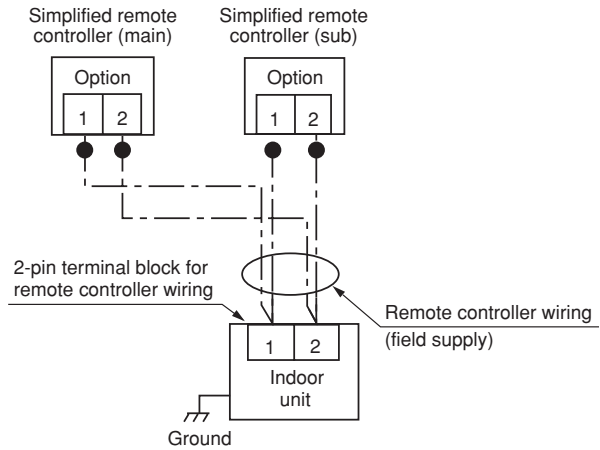

Fig. 3-55
**Note: Make sure to connect the wires correctly or the unit may be damaged. (Fig. 3-55)**